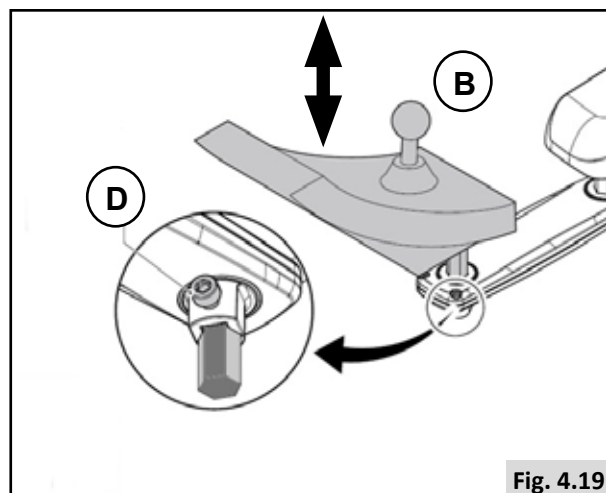

Fig. 4.19
### Pre-setting height of the controller (2) , (Fig. 4.19)
1. Loosen (D).
2. Slide (B) into desired position.
3. Tighten (D).